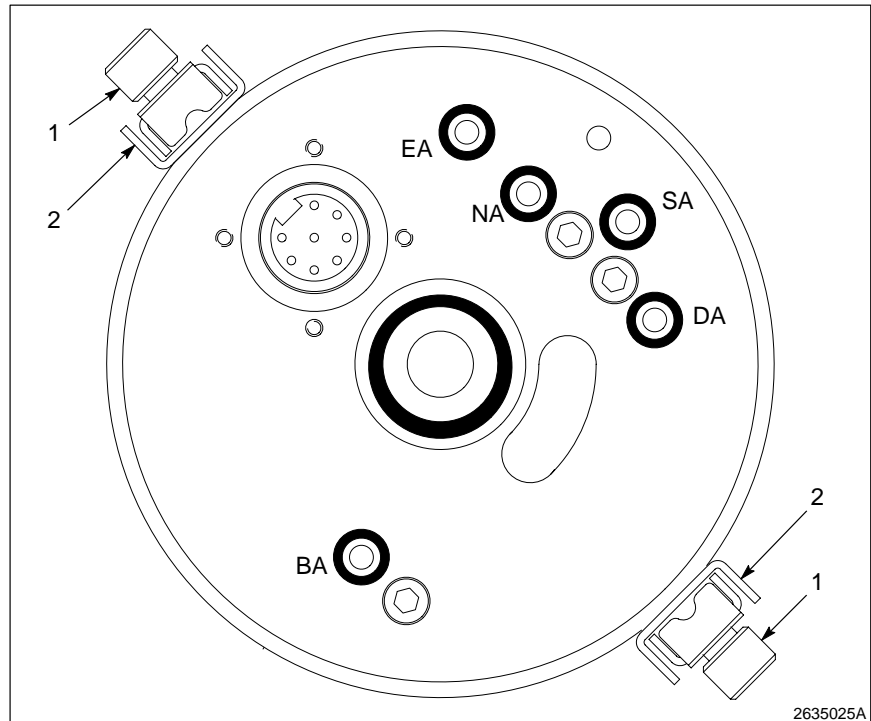

Fig. 7-4 Rear Body
11. See Figure 7-4. Remove the screws (1) to the locking clips (2) that secure the rear body and remove the rear body.